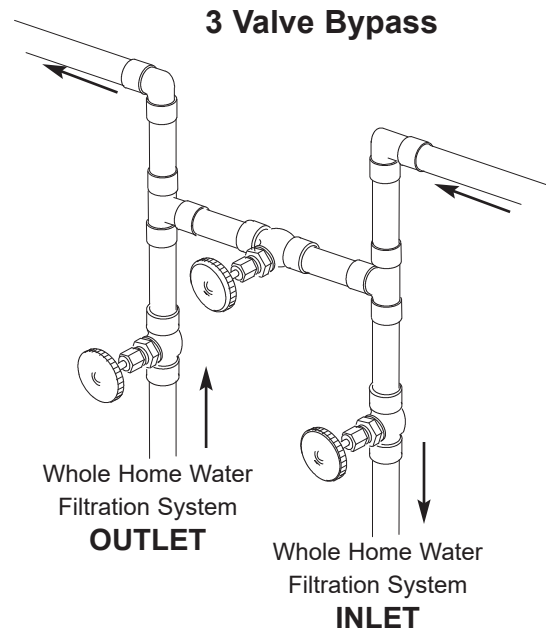
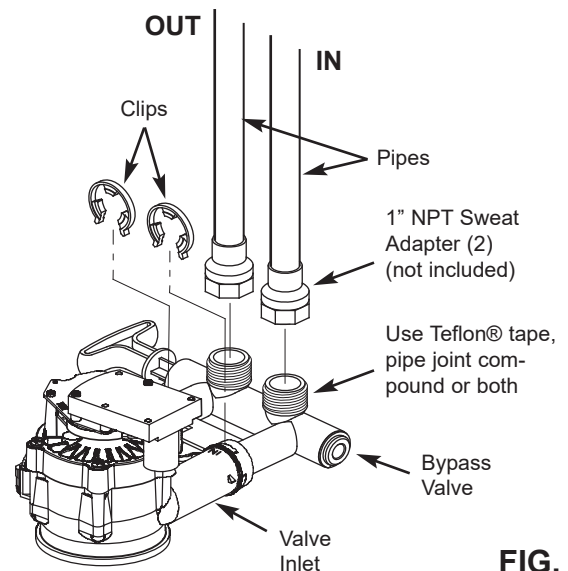

FIG. 6
FIG. 7
Always install either a single bypass valve (provided) to the contractor/plumber-supplied plumbing, as shown in Figure 7 OR if desired, a 3 valve bypass system (parts not included) can be installed, as shown in Figure 6. Bypass valves allow you to turn off water to the Whole Home Water Filtration System for maintenance if needed, but still have water in house pipes.
**CAUTION:** The house cold water pipe (metal only) is often used as a ground for the house electrical system. The 3-valve bypass type of installation, shown in Figure 6, will maintain ground continuity. If you use a plastic bypass valve at the unit, continuity is broken. To restore the ground, do the following: